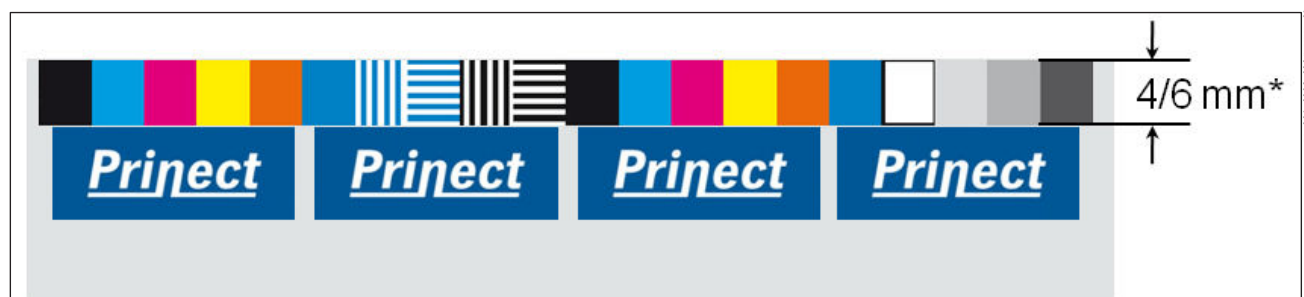

Fig. 16 Measurement field size with auto tracking, software version S12A
- The paper white is no longer needed as of software version S12A (Fig. 16).